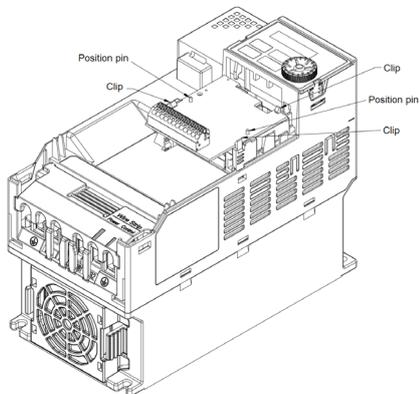

Figure 8-4
4. Assembling the adapter / option card: As shown in the figure 8-4, have the terminal block of the adapter / option facing up, aim the two holes of the adapter / option card to the position column and press downward so that the three clips are engage the adapter / option card.